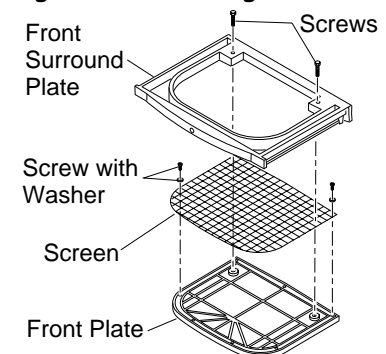

Figure 15 - Removing Screen from Front Assembly
15. Lay the front panel assembly face down on a protected surface. Remove the two screws that hold the front plate onto the front surround plate (see Figure 15). Save these screws.
16. Remove the seven screws and washers that hold the screen onto the front surround plate. Discard these screws, washers, and screen. They are for vent-free use only (see Figure 15).